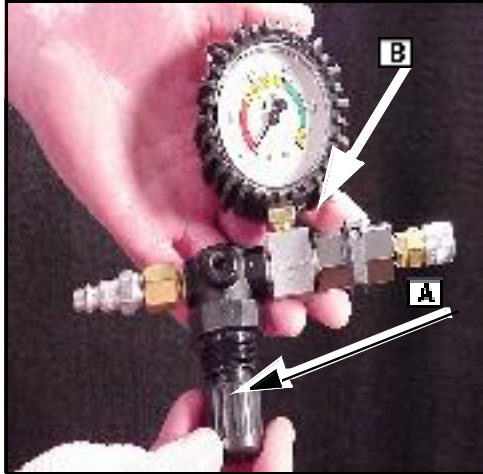

Fig. 3
6. Pull out the regulator adjustment knob (A) and turn knob counterclockwise as far as it will go. Make sure air outlet valve (B) Fig. 3) is closed.